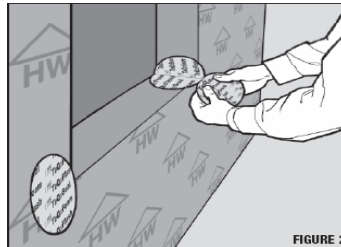

Figure 2
2.1.1 Remove backing from pre-cut WINTeQ™ corner guard and position a guard at each jamb and sill intersection so that ½ of the guard is covering the flat sill and jamb and the remaining half is pulled out over the exterior sheathing (Figure 2).